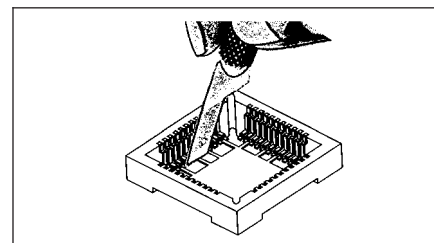

Figure 1 Remove Center
2. Cut and remove plastic center. (See Figure 1.)